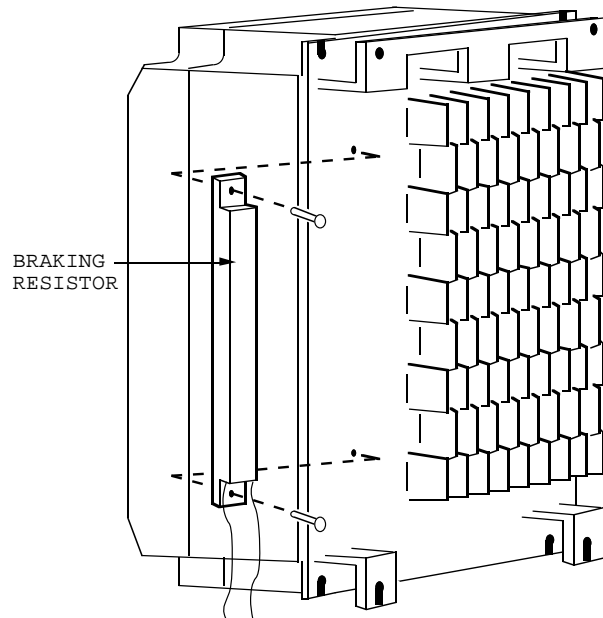

Figure A7-1. Mounting Braking Resistor on Heat Sink
2. Mount the Braking Resistor on the back of the drive's heat sink, as shown in Figure A7-1.